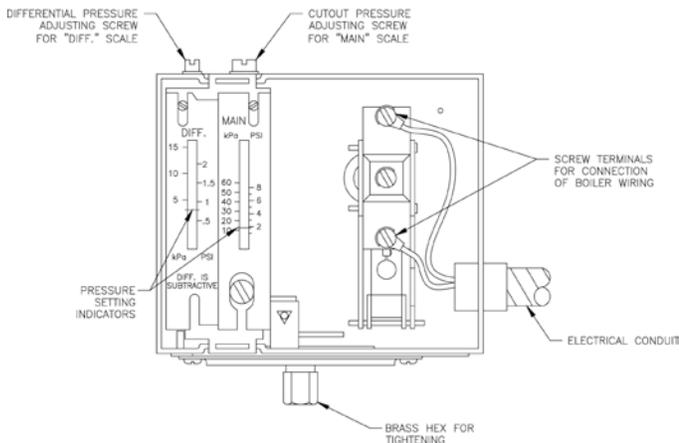

Figure 18: L404F Pressure Limit Control
- a. Install pressure limit control into Tapping "H" with siphon, $\frac{3}{4}$ " x $\frac{1}{4}$ " hex bushing, $\frac{3}{4}$ " elbow and $\frac{3}{4}$ " x 3" nipple provided. See Figures 1 and 2. DO NOT TWIST CONTROL. Use wrench on hex fitting located at bottom of control. See Figure 18.
- b. The L404F pressure limit employs a snap action switch and does not require leveling. See Figure 18.
- c. The L404F pressure limit employs a snap action switch and does not require leveling. See Figure 18.
1. Screw the pressure limit/control onto the syphon. DO NOT TWIST CONTROL. Use wrench on hex fitting at bottom of control. See Figure 18.
3. Open the control's clear cover and attach the two (2) wires in the conduit to the two (2) unused screw terminals.